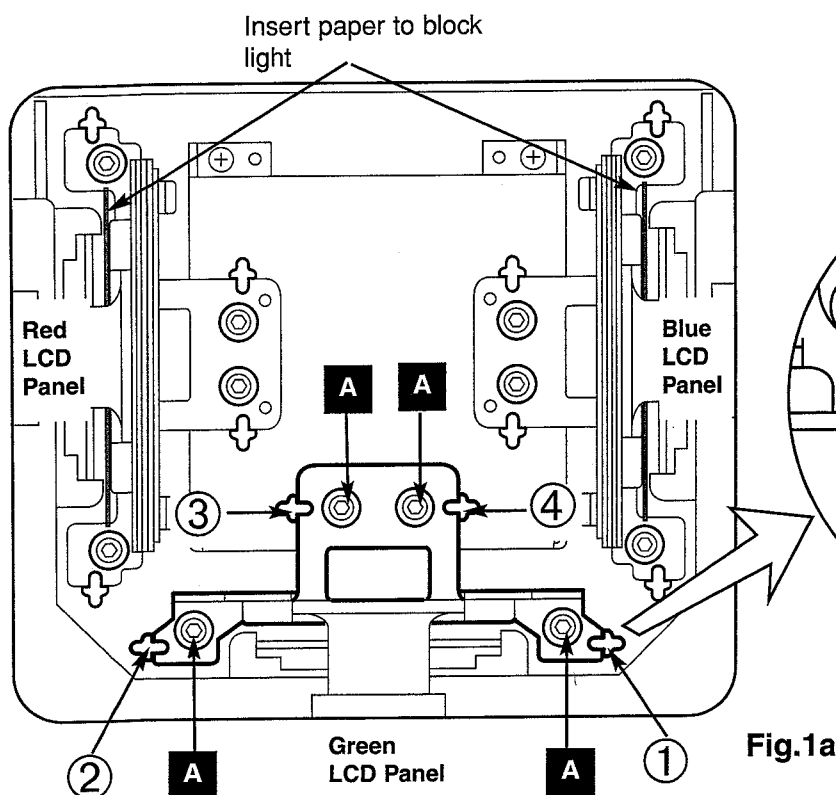
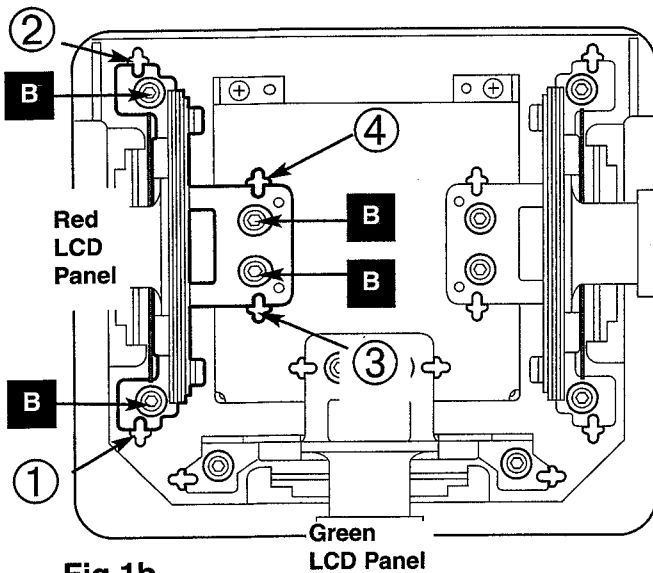
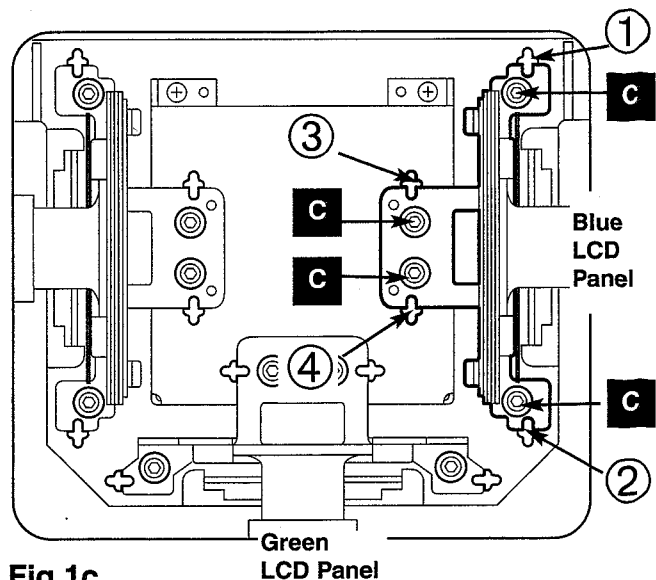
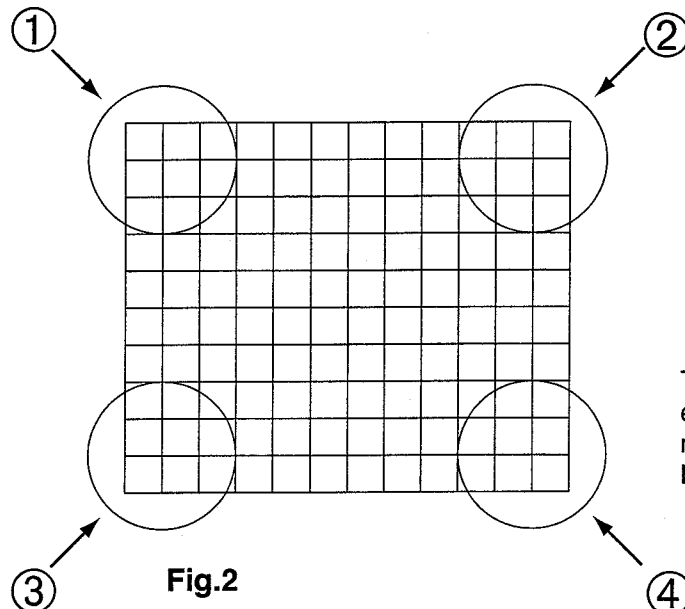

Fig.1a
Fig.1b
Fig.1c
Fig.2
4. Loosen the 4 screws "A" with the 2.0mm hex driver (**Fig.1a**).
5. Insert the slot type screwdriver in the slots ①, ②, ③ and ④ (**Fig.1a**) and gently turn the screwdriver until the each corner of screen is in sharp focus. The relation of adjustment points and screen corners are indicated with ①, ②, ③ and ④ shown in **Fig.1a** and **Fig.2**.
4. Loosen the 4 screws "B" with the 2.0mm hex driver, see **Fig.1b**.
5. Insert the slot type screwdriver in the slots ①, ②, ③ and ④ (**Fig.1b**) and gently turn the screwdriver until the each corner of screen is in sharp focus. The relation of adjustment points and screen corners are indicated with ①, ②, ③ and ④ shown in **Fig.1b** and **Fig.2**.
4. Loosen the 4 screws "C" with the 2.0mm hex driver, see **Fig.1c**.
5. Insert the slot type screwdriver in the slots ①, ②, ③ and ④ (**Fig.1c**) and gently turn the screwdriver until the each corner of screen is in sharp focus. The relation of adjustment points and screen corners are indicated with ①, ②, ③ and ④ shown in **Fig.1c** and **Fig.2**.